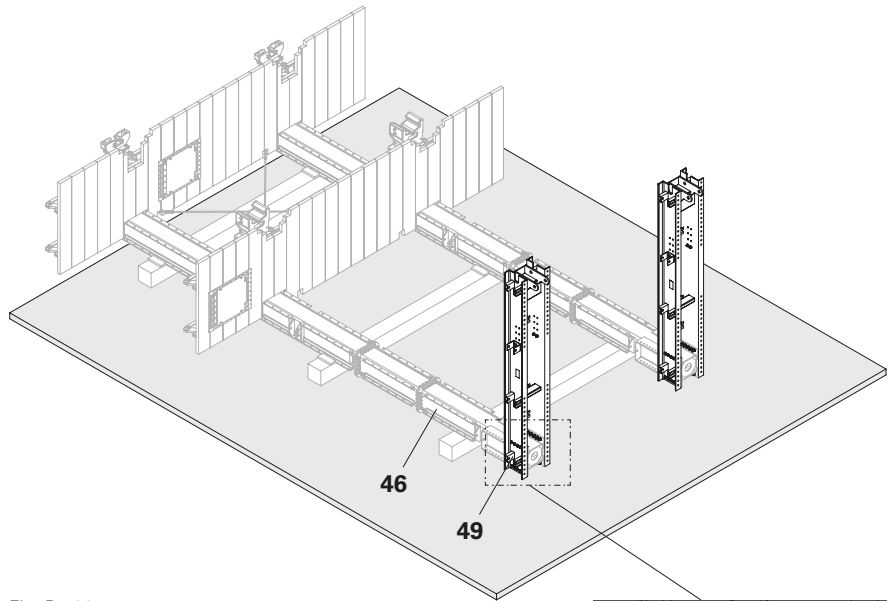

Fig. B5.03
1. Screw the Gallows 3325 ACS-G (**49**) onto the Vertical Post Top 2100 ACS (**46**) with the fixing materials provided. (Fig. B5.03)